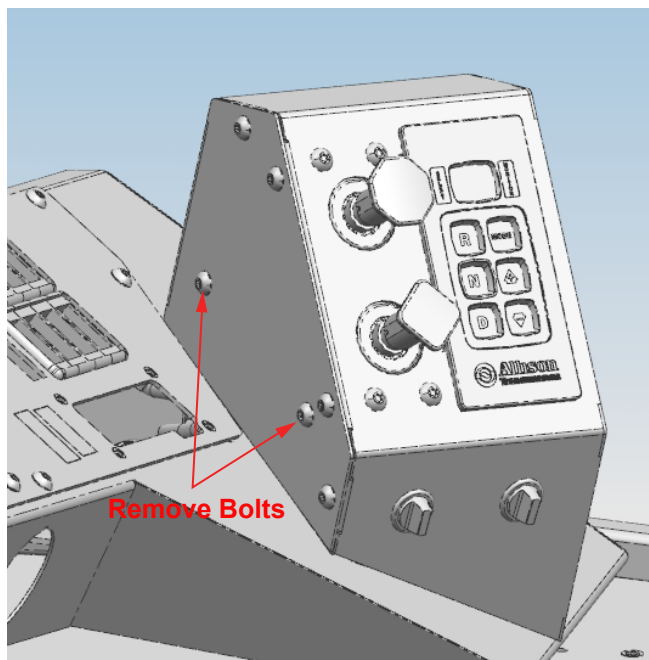
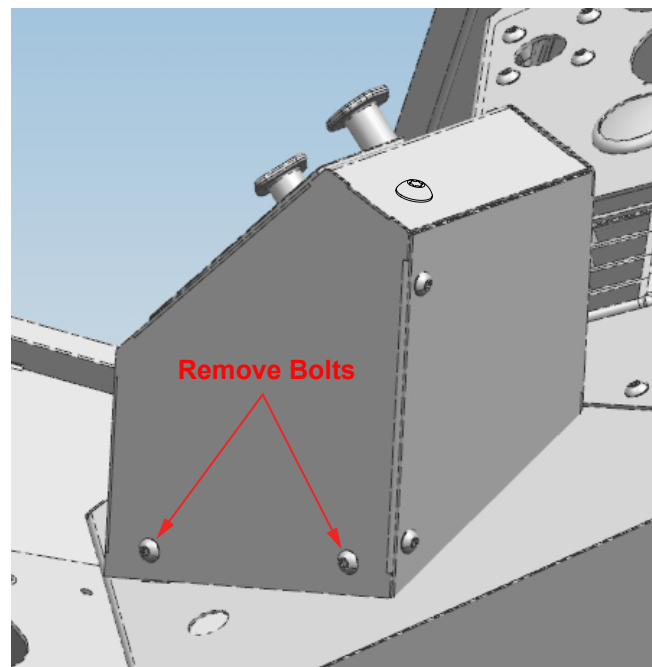

Figure 1
Figure 2
3. Remove the 4 bolts from the shifter cover and set aside for reassembly (see *Figure 1* and *Figure 2*).